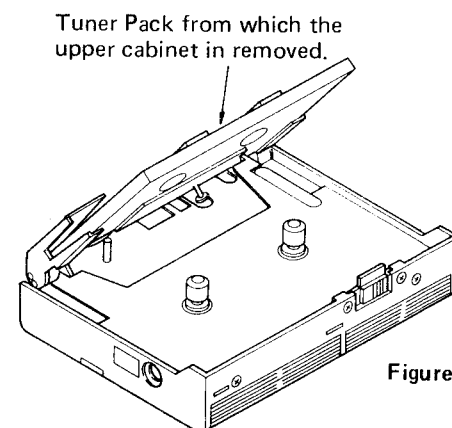

Figure 11
2. Load the tuner pack from which the upper cabinet is removed, into the cassette holder. (Figure 11)